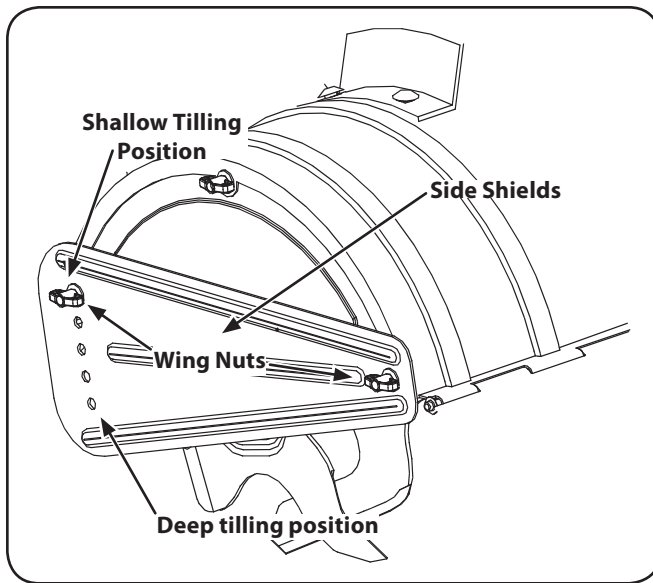

Figure 5-2
7. To adjust the side shields, remove the wing nuts. Move the side shield to the desired position and replace the wing nuts. Tighten securely. See Fig. 5-2.